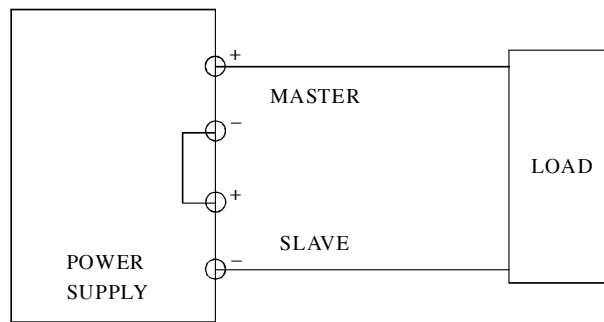

Fig.4-3 Single Supply
B. Single supply (Fig.4-3)
- E. If “single supply” operation is desired, this allows the power supply to be used as twice the voltage and rating current simply by using the negative (black) terminal of the SLAVE supply and the positive (red) terminal of the MASTER supply, the configuration as shown in Fig. 4-3.